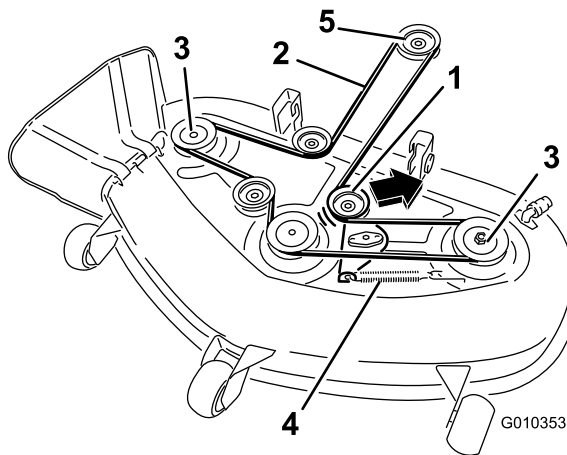

Figure 64
6. Push the idler pulley in the direction shown in Figure 64 and roll the belt off of the pulleys.
7. Route the new belt around the engine pulley and mower pulleys (Figure 64).
8. Pull the idler pulley in the direction shown in Figure 64 and route the belt onto the idler pulley (Figure 64).